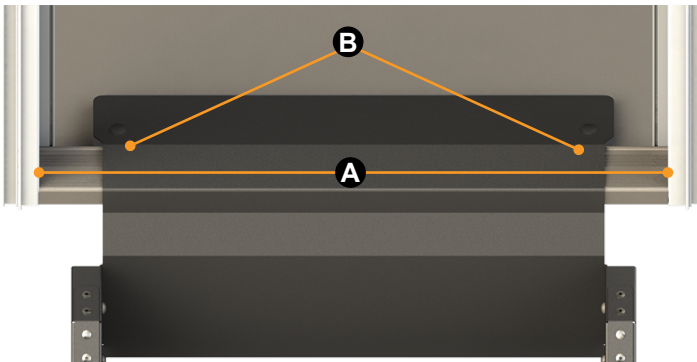

Fig.2
1. With the step extended and in the down position, place the SolidStep® assembly inside the doorframe (Fig.2).